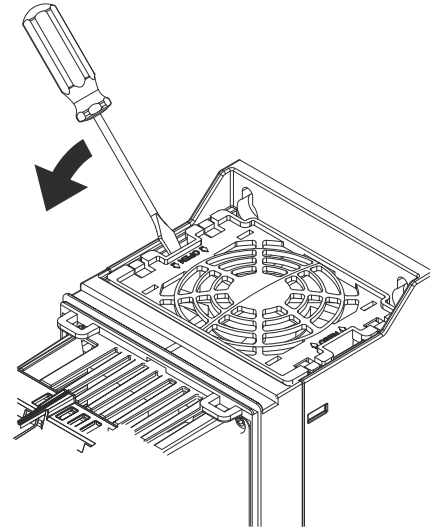

Fig. 41 — Remove Top Cover/Fan Assembly on AHC580 VFD
3. Remove the top fan cover (see Fig. 41).